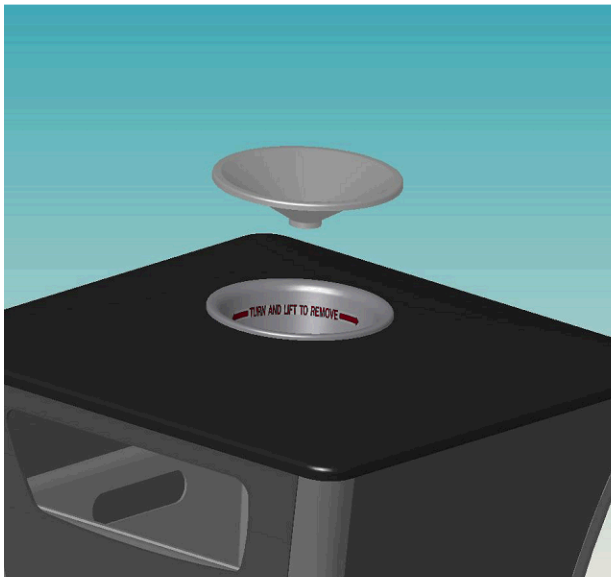

Figure 2 - Lift funnel straight up to remove
1. Remove the funnel from the top of the bowl. Set the funnel on a non-marring surface to protect the finish. See Figure 2.